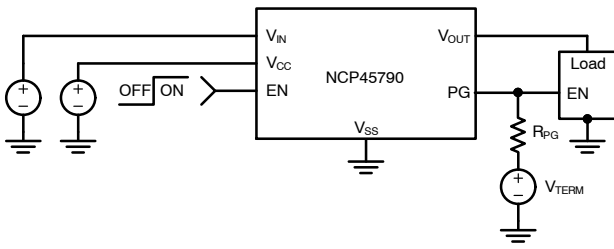

Figure 25. Guaranteed-by-Design Power Sequencing Example
The NCP45790 device has a power good output (PG) that can be used to indicate when the gate of the MOSFET is fully charged. The PG pin is an active-high, open-drain output that requires an external pull up resistor, R_{PG}, greater than or equal to 100 kΩ to an external voltage source, V_{TERM}, that is compatible with input levels of all devices connected to this pin (as shown in Figures 25). The power good output can be used as the enable signal for other active-high devices in the system (as shown in Figure 25). This allows for guaranteed by design power sequencing and reduces the number of enable signals needed from the system controller. If the power good feature is not used in the application, the PG pin should be tied to GND.